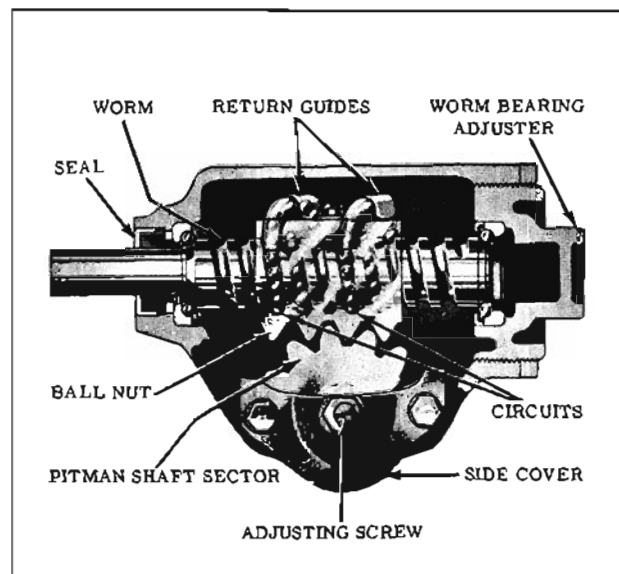

Fig. 8-7 Manual Steering Gear
MANUAL STEERING (Fig. 8-7) ADJUSTMENTS (ON CAR)
2. Loosen pitman shaft adjusting screw locknut and loosen adjusting screw a few turns. (Fig. 8-7)